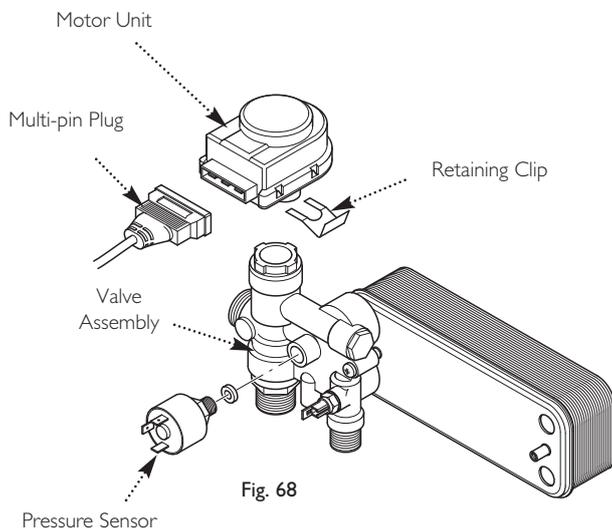

Fig. 68
13.20 Diverter Valve - Motor Unit & Assembly (Fig. 68)